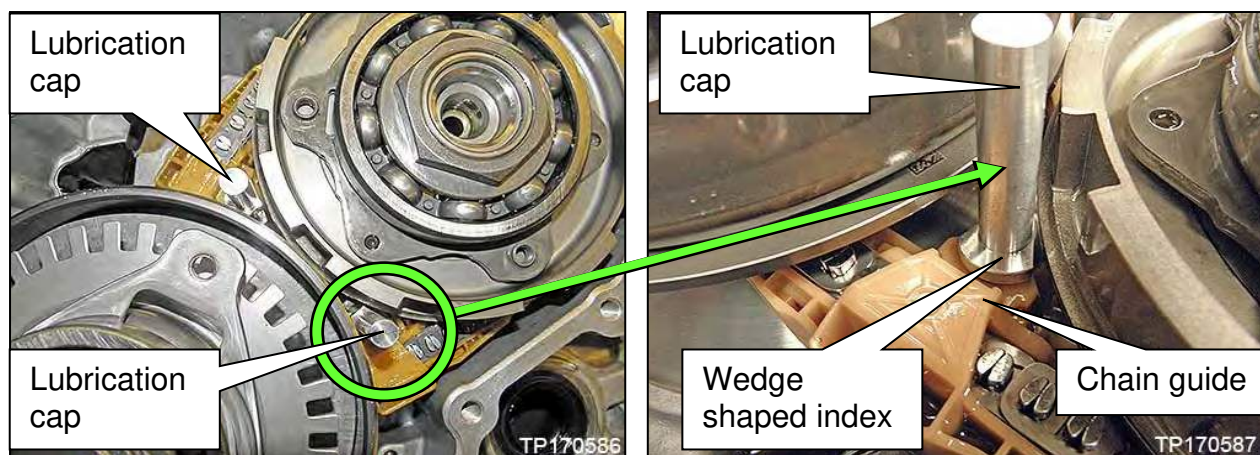
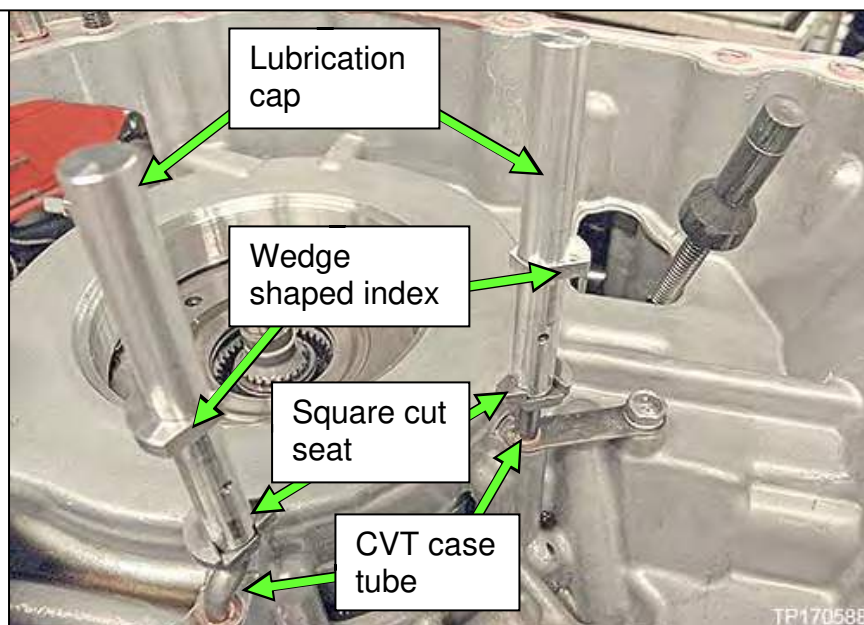

Figure 105
Figure 106
78. Install two (2) new lubrication caps (see **PARTS INFORMATION**) shown in Figure 105 onto the tubes of the CVT case shown in Figure 106 as follows:
Figure 106 shows the pulleys and chain removed to illustrate how the lubrication caps attach to the CVT case tubes and is for reference only.